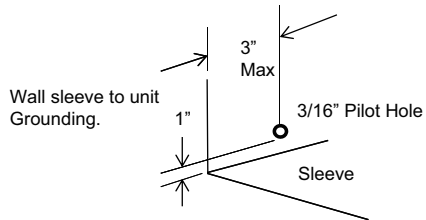

Fig.2
4. If the unit has not been predrilled (some models), carefully drill 4 – 1/8" holes through the grille and into the side flange of the unit approximately 1 1/2" to 2" from the top and bottom as in Fig. 2 & Fig. 3. (Be careful not to drill into the copper heat exchanger coil)
From the installation kit, apply two 1" x 3/4" x 14" seals along the flat metal flange of the condenser. (See Fig. 2).